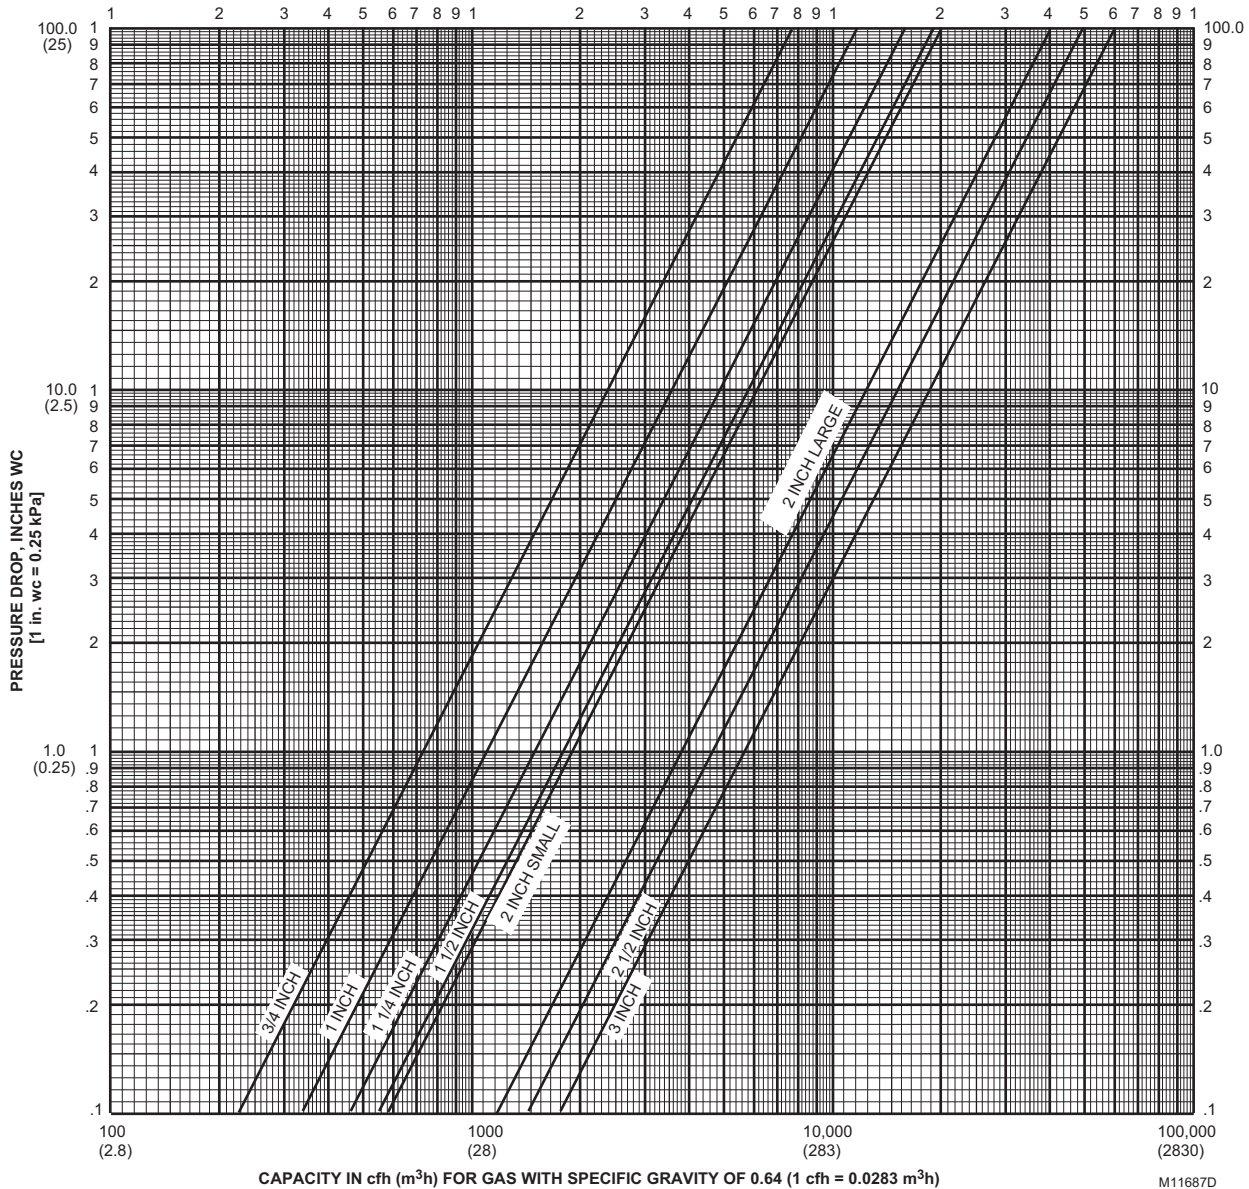

Fig. 4. Flow curves for V5097 valves.
5. Use the cfh capacity (for 0.64 or the corrected cfh from step 4) for determining the gas valve size in Fig. 4.
6. Determine the available pressure drop across the valve and draw a horizontal line at this pressure in Fig. 4.
7. Draw a vertical line in Fig. 4 at the capacity (cfh) previously determined. Use the corrected capacity for a gas with a specific gravity other than 0.64.
- Use the valve size at the intersection of the horizontal and vertical lines. If the intersection is between valve sizes, use the next larger valve size in Fig.4.
Applying this number to Fig. 4, assuming a 1 in. wc pressure drop, use a 2 in. (large body) V5097 Valve for that flow (step 8 of Gas Valve Sizing).